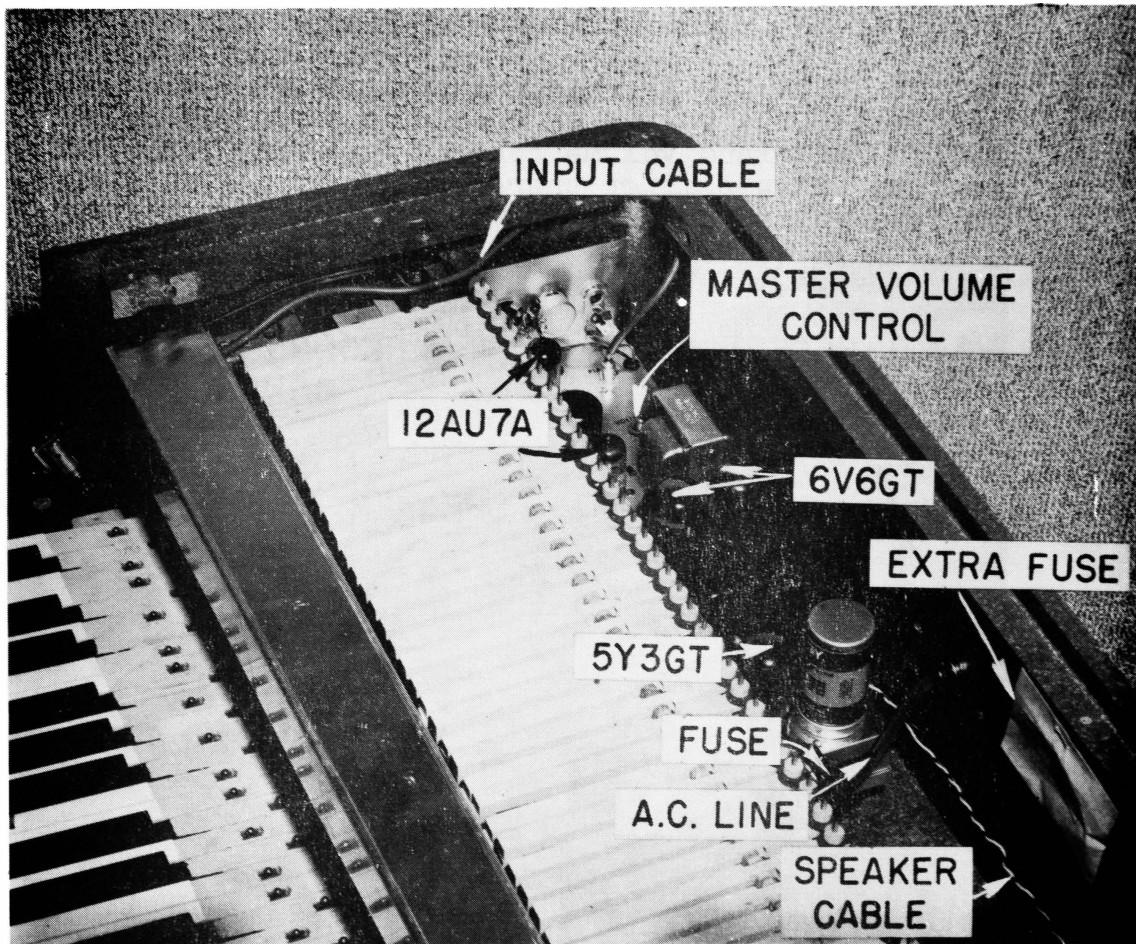

Fig. 3
5. Inspect the amplifier to see if all tubes are mounted securely in their sockets. These tubes are not special tubes and can be obtained easily in your own locality. (Location of tubes shown in Figs. 3 and 10 and on Schematic Diagram, Fig. 9.)
6. Check to see if the following cables are plugged in tightly, as shown in Fig. 3:
7. FUSES: Check 1 amp fuse (Slo-Blo) as shown in Fig. 3 and Fig. 10.